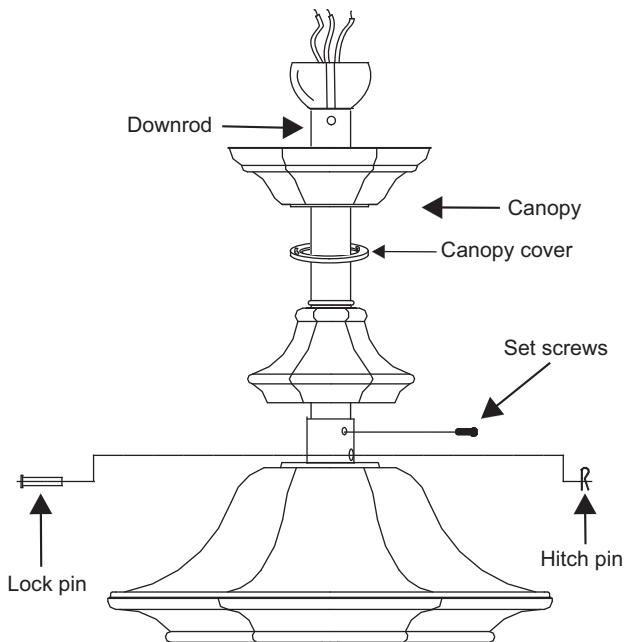

Figure 7
Step 6. Route wires exiting from the top of the fan motor through the collar cover, canopy cover, canopy and then through the ball/downrod. (Fig. 7)
Step 7. Align the holes at the bottom of the downrod with the holes in the collar on top of the motor housing (Fig.7). Carefully insert the hanger pin through the holes in the collar and downrod. Be careful not to jam the pin against the wiring inside the downrod. Insert the locking pin through the hole near the end of the hanger pin until it snaps into its locked position, as noted in the circle inset of Fig. 7.
Step 8. Tighten two set screws on top of the fan motor firmly. (Fig. 7)